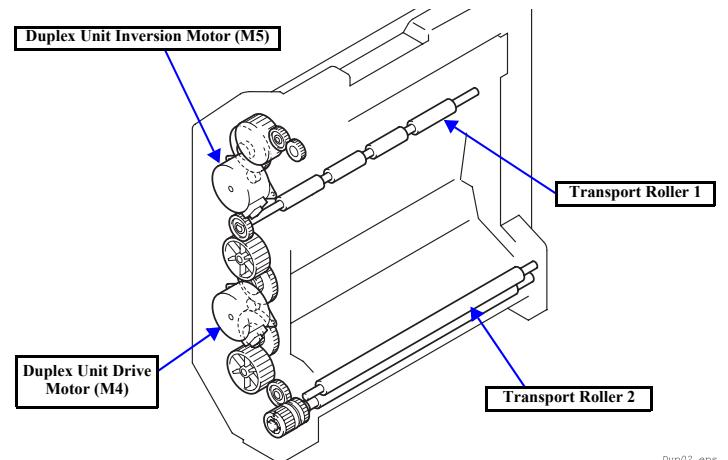

Figure 2-30. Driving of Duplex Unit
- The Duplex Unit is driven as follows: the paper after printing on one side is fed into the Output Tray once and when the tail end of the paper has left the guide behind the paper eject roller, the paper eject roller starts rotating to transport the paper into the Duplex Unit. (See "Figure 2-30")